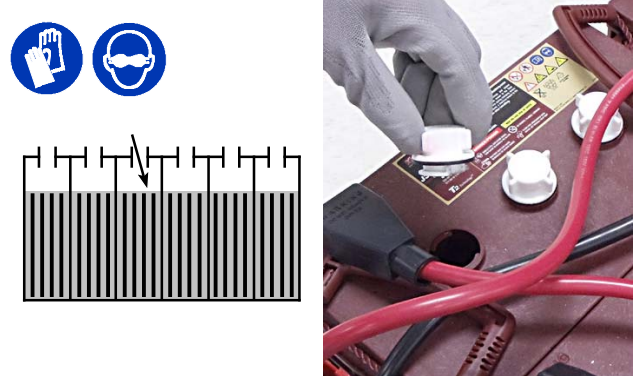

FIG. 109
1. Check the electrolyte level in all batteries (Figure 109). See BATTERIES.